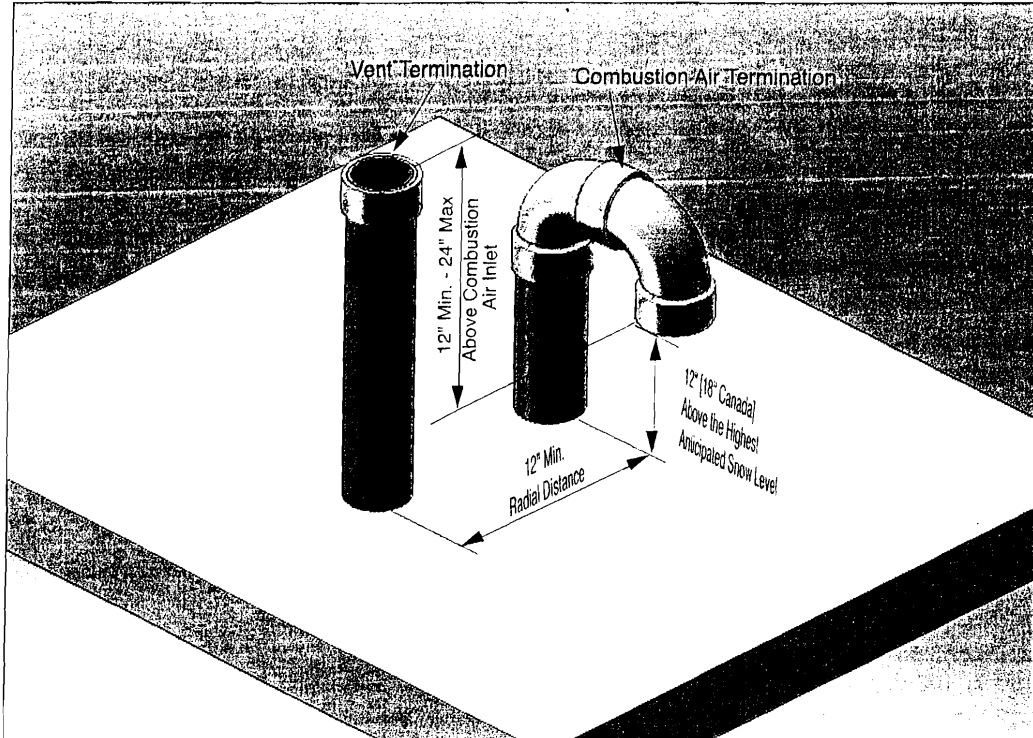

Fig. 1: Direct Vent - Vertical Termination of Vent and Combustion Air Piping.
- 3. Locate the vent and combustion air pipe penetrations to provide clearances as described in Fig. 1 & Fig. 2 on page 6.
- 2. The combustion air piping must terminate in an upside down "U" shape fashion using two 90° elbows as shown in Fig. 1 page 6 or with a tee as shown in Fig. 2 on page 6.
- 3. The vent piping must terminate vertically with a coupling as shown in Figs. 1 & 2 page 6.
Do not extend the vent pipe above the roof beyond the dimensions shown in Fig. 1 & Fig. 2 on page 6. Extended exposure of the vent pipe could cause condensate to freeze and block the vent pipe.